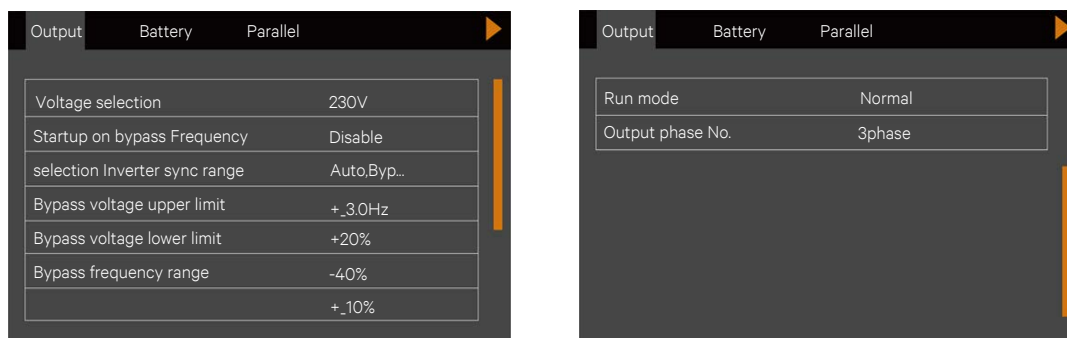

Figure 2-34 Output interface
b) Press the  or  key to select and set corresponding parameters (taking 'Output' as an example) as shown in Figure 2-34.